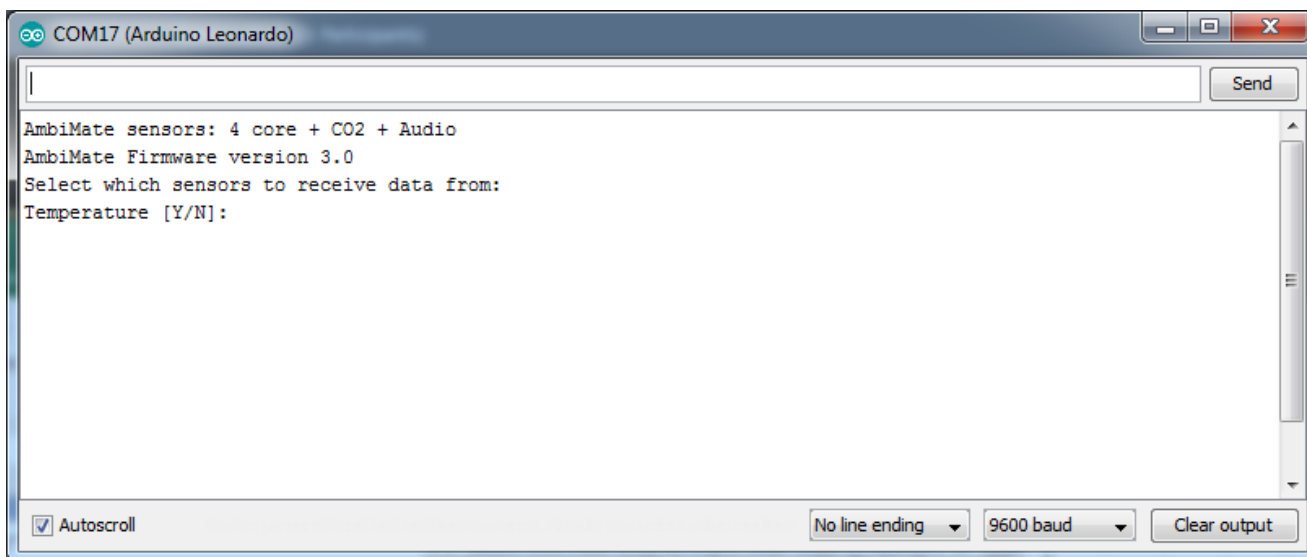

Figure 9
5. After uploading to the board, the Serial Monitor shows the data as in Figure 9. Firmware version and sensor availability can be checked.